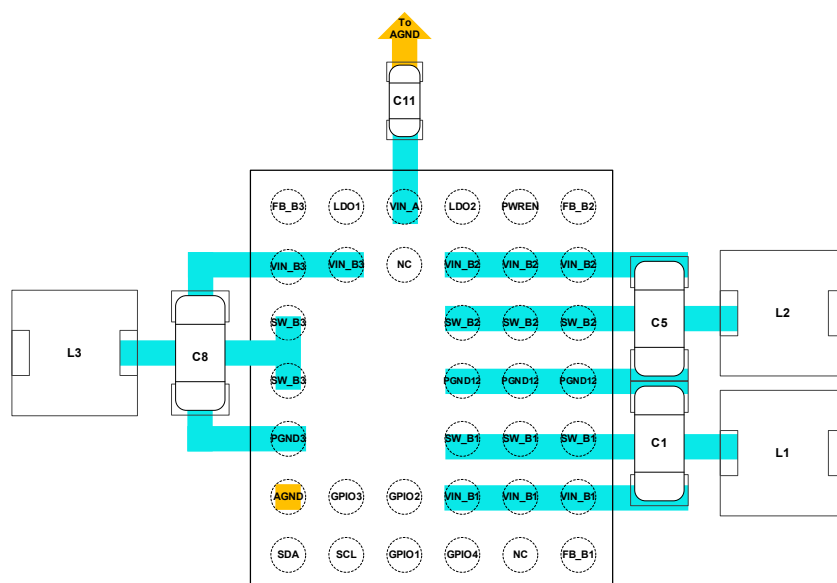

Figure 14. Recommended Layout
8. Figure 14 illustrates the recommended power and signal connections, as well as the routing beneath the IC. For a detailed routing example, refer to the SGM260321 evaluation kit.